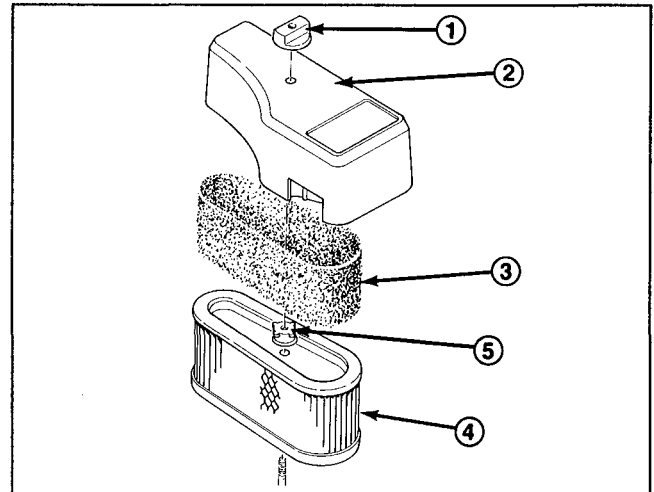

Figure 22
2. Remove knob and air cleaner cover (Fig. 22).
3. Every 25 hours the foam pre-cleaner should be cleaned (Fig. 22). Remove foam pre-cleaner by sliding it off the paper cartridge (Fig. 22).
4. The paper air cleaner cartridge should be replaced every 100 hours. Remove (1) one nut from top of paper cartridge (Fig. 22).